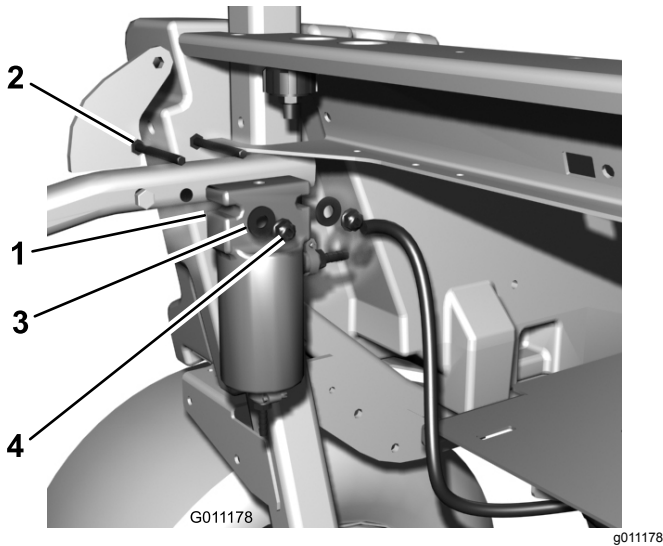

Figure 3
2. Mount the accumulator to the frame with 2 screws (5/16 x 3-1/4 inch), 2 washers, and 2 flange nuts (Figure 3).